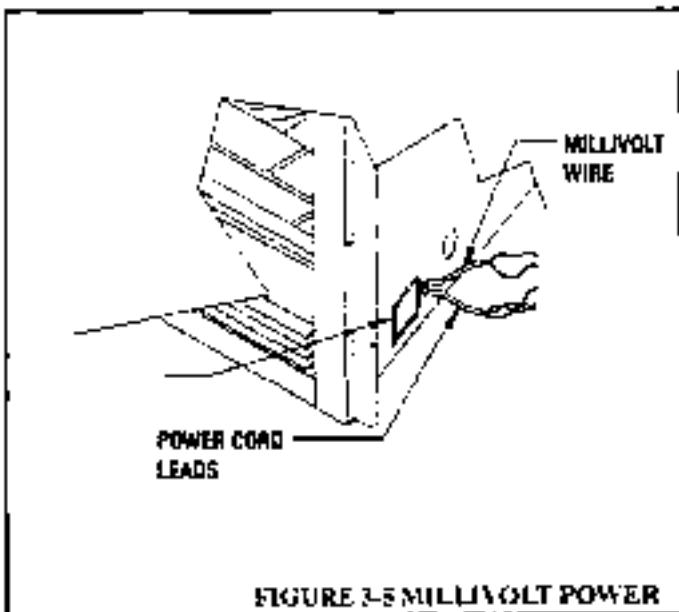

FIGURE 3-5 MILLIVOLT POWER
- 1 Pull the free end of the millivolt wire (black duplex) out of the fireplace through the access panel. Refer to Figure 3-5.